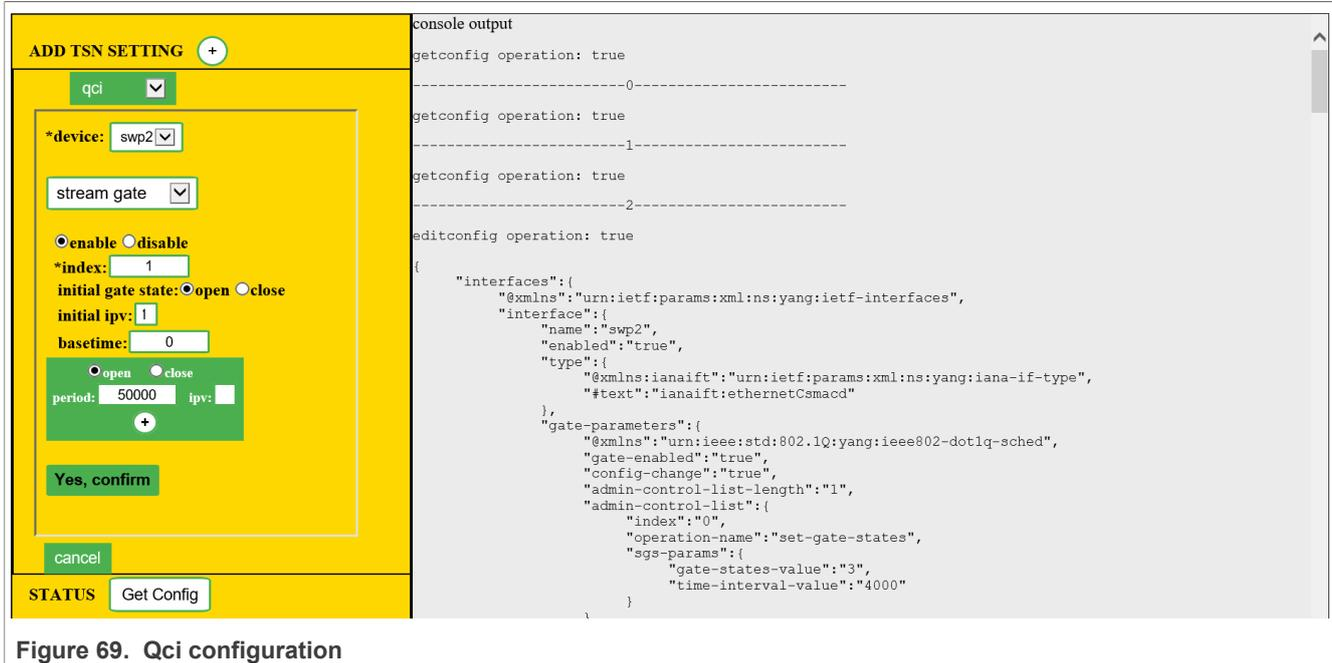

Figure 69. Qci configuration
- **Qci Configuration:** Selecting 'qci' option setting displays the options as shown in Figure 69.